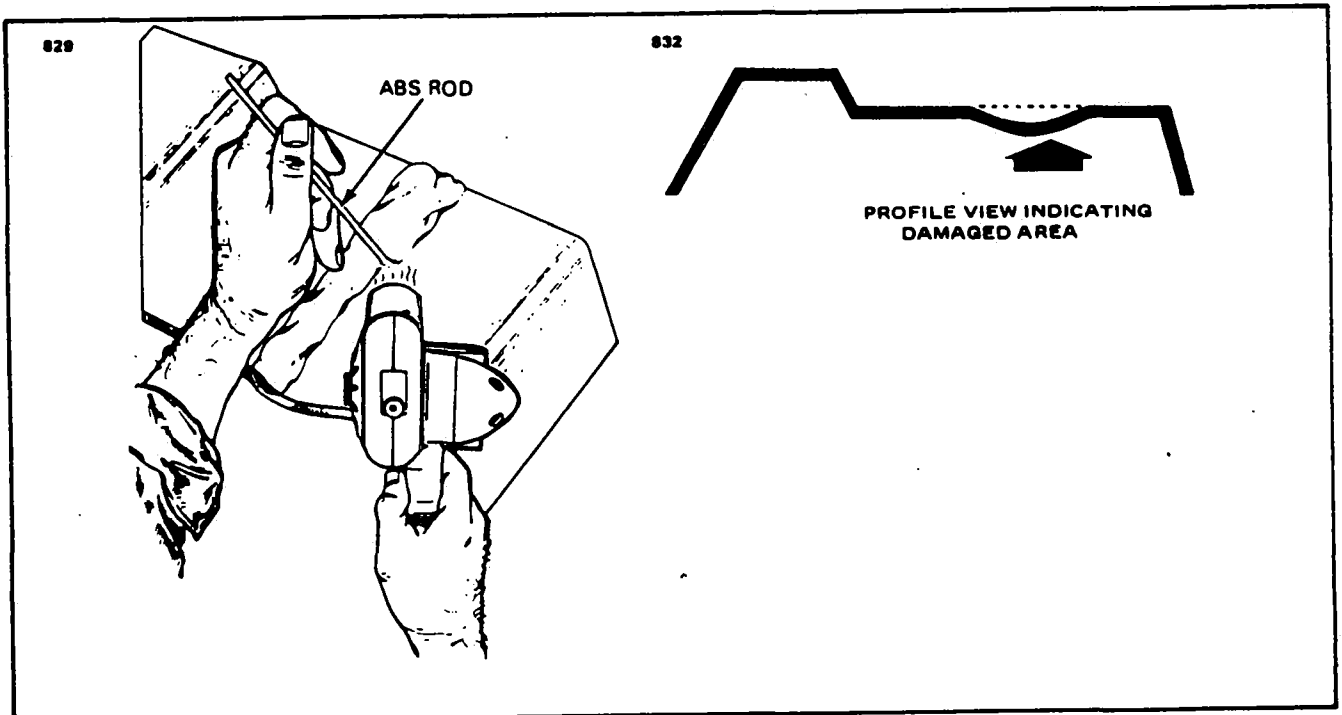

Figure 4-21. Repair of Impacted Damage
1. Stress lines produce a whitened appearance in a localized area and generally emanate from the severe bending or impacting of the material. (Refer to Figure 4-21.)